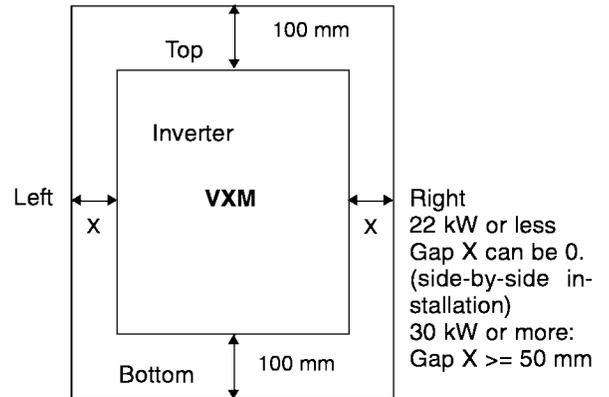

Figure 2-2-1
2. As heat is generated during inverter operation, the spaces shown in Fig. 2-2-1 are required to ensure sufficient cooling. As heat radiates upward, do not install the product beneath a device sensitive to heat.